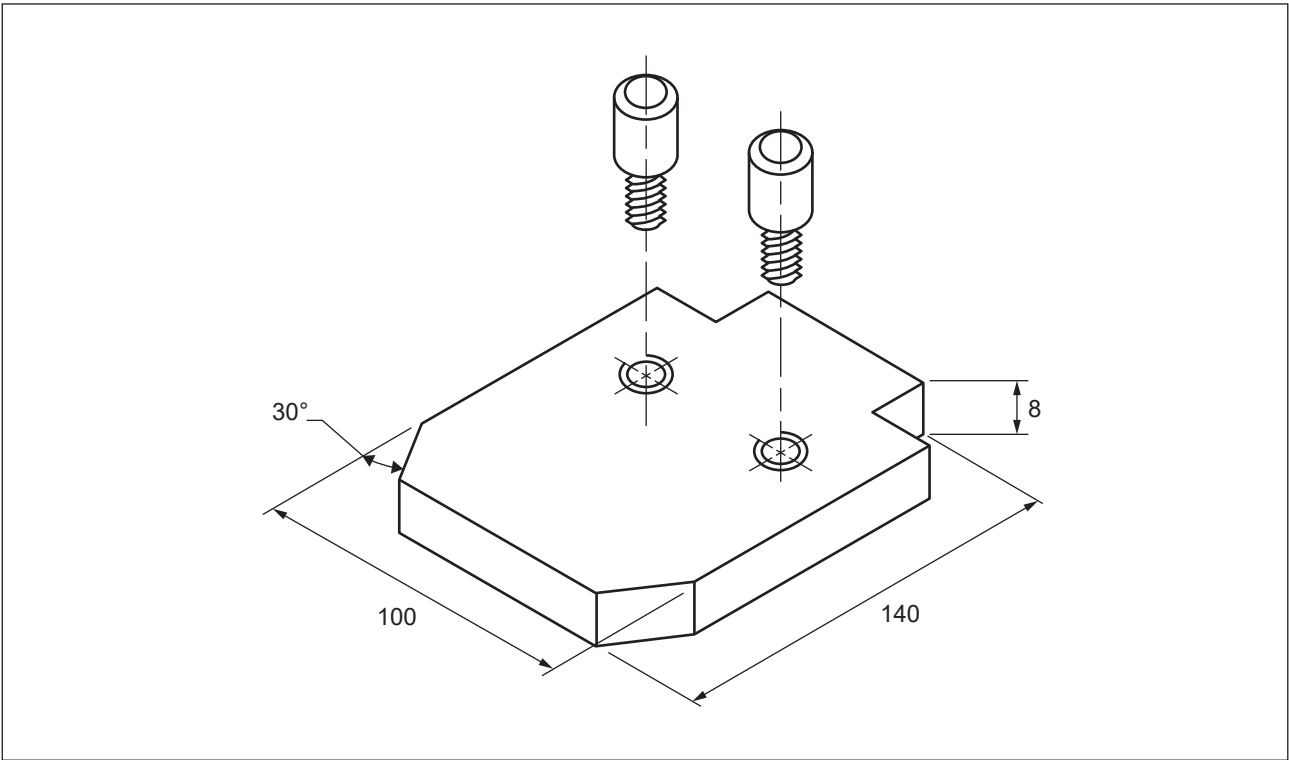

Figure 13
Figure 13 shows an end plate with two screws. Only basic dimensions of the plate are shown.
- a. The list below shows the operational steps to manufacture the end plate shown in Figure 13. The steps are **not** in the correct sequence.